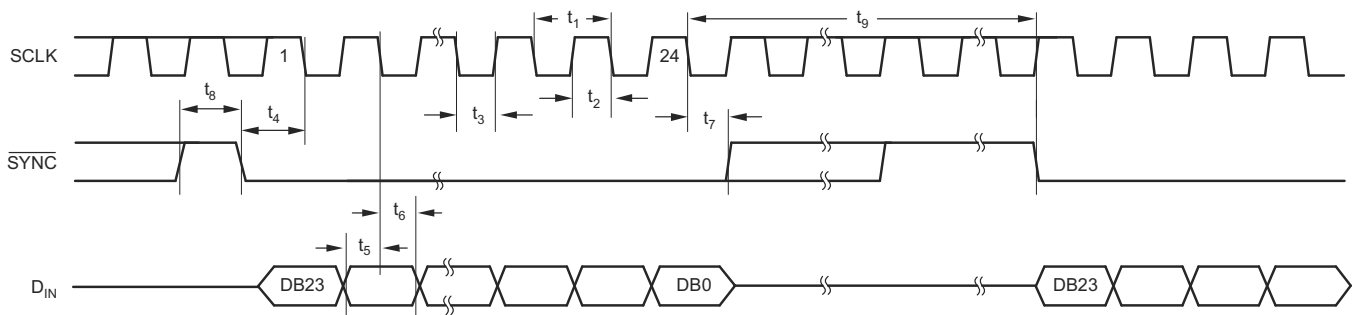

Figure 1. Serial Write Operation
- (1) All input signals are specified with t_R = t_F = 5 ns (10% to 90% of V_{DD}) and timed from a voltage level of (V_{IL} + V_{IH})/2.
- (2) See Serial Write Operation timing diagram Figure 1.
- (3) Maximum SCLK frequency is 30 MHz at V_{DD} = 3.6 V to 5.5 V and 20 MHz at V_{DD} = 2.7 V to 3.6 V.